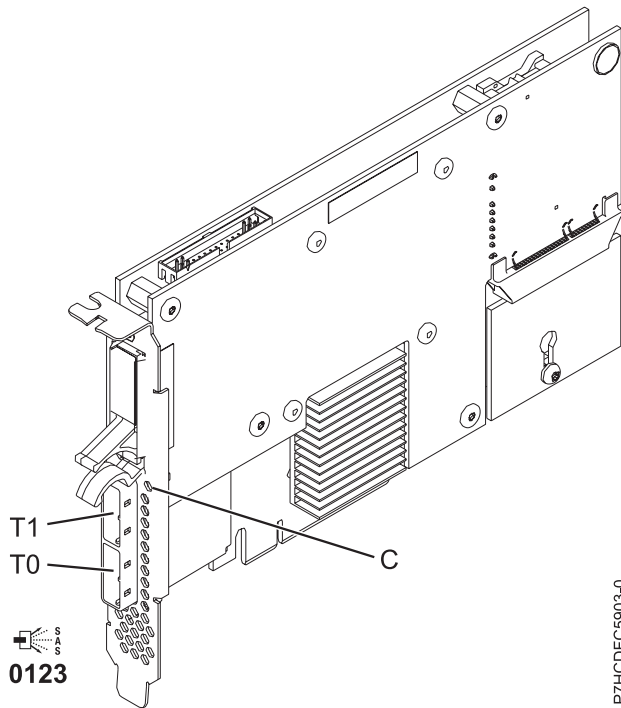

Figure 13. PCIe Dual - x4 3 Gb SAS RAID Adapter
The 5903 or 5805 contains a LED ((C) in Figure 13 on page 28) that flashes if the cache data is present. The cache-data present LED flashes when there is possible data in the cache on the adapter. If the cache data present LED is flashing, do not replace the cache battery pack. If replaced when the LED is flashing, the cache data is lost. See Figure 13 on page 28 to locate the cache-data present LED on this adapter.